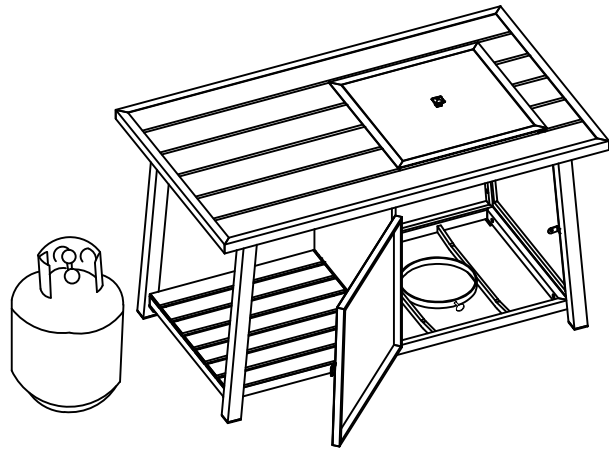

Fig. 2
- Open the front access door. (Fig. 2)